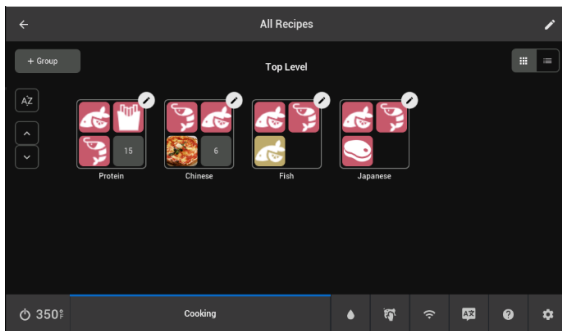

Figure 35 - All Recipe Groups
- Click  to add the newly created group to a lane **Figure 35**